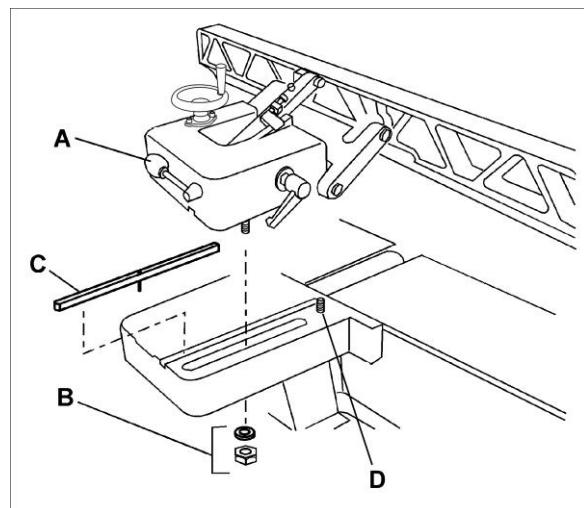

Figure 36
Refer to Figure 36.
1. Release the fence locking handle (A, Figure 36) and remove the hex nut and washer (B) holding the fence to the fence support. Remove the fence assembly.
2. Remove the key (C) and the 1/4"-20 x 1/4" socket head cap screw (D) from the fence support. (The socket head screw keeps the non-mar insert from hitting the key.)
4. Secure the fence to the support with the hex nut and washer (B), then tighten the fence locking handle (A).
2. Remove fence assembly from jointer (see Figure 36 and accompanying instructions).